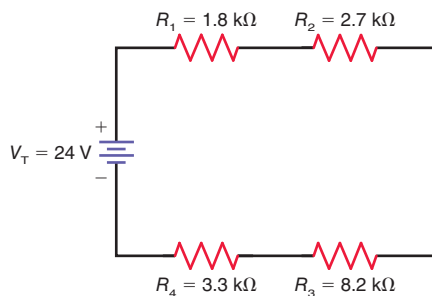

Figure 5-24
- 5.11 In Fig. 5-24, solve for R_T , I , V_1 , V_2 , V_3 , and V_4 .